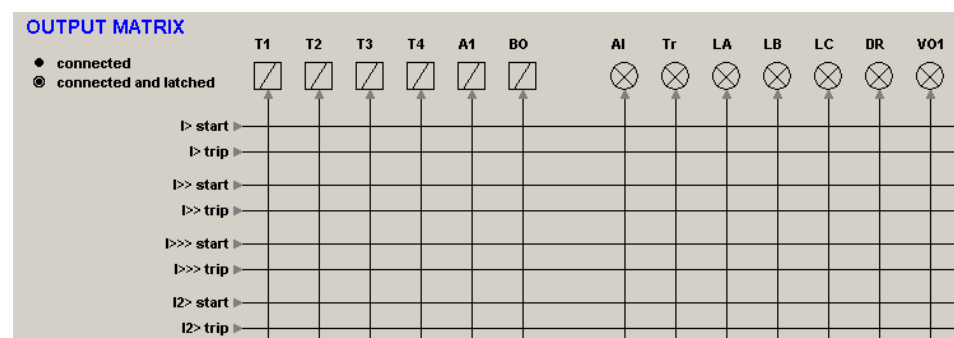

Figure 5.4-1 Output matrix.
There are eight general purpose LED indicators – "A", "B", "C", "D", "E", "F", "G" and "H" – available for customer-specific indications on the front panel. Furthermore there are two LED indicators specified for keys F1 and F2. In addition, the triggering of the disturbance recorder (DR) and virtual outputs are configurable in the output matrix. See an example in Figure 5.4-1.